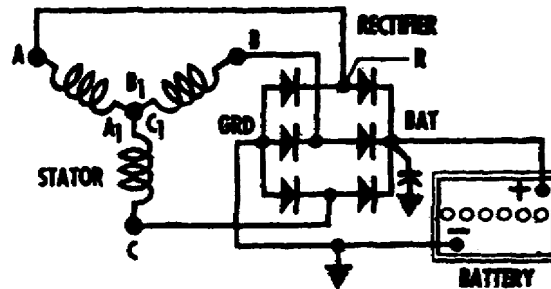

Figure 33. Three-phase, full-wave rectifier.
g. In order to obtain a higher output and smoother voltage and current, a three-phase stator is connected to six diodes which together form a three-phase, full-wave bridge rectifier (fig 33). A battery connected to the DC output terminal will have its energy restored as the generator provides charging current. Note that the blocking action of the diodes prevents the battery from discharging directly through the rectifier.